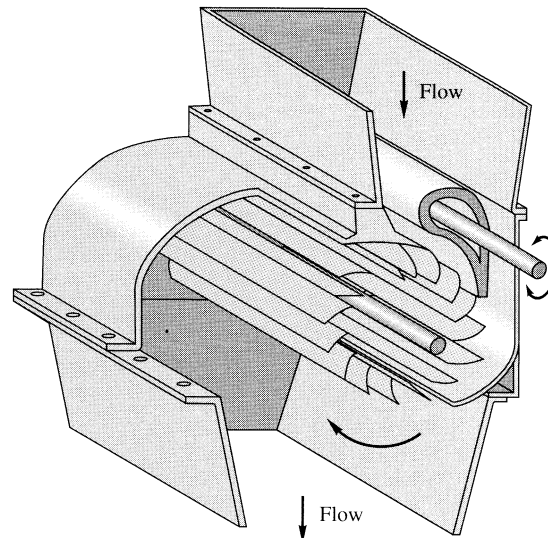

Fig. P11.93
**11.93** Figure P11.93 shown on the following page, shows a *crossflow* or “Banki” turbine [Ref. 55], which resembles a squirrel cage with slotted curved blades. The flow enters at about 2 o’clock, passes through the center and then again through the blades, leaving at about 8 o’clock.
**11.94** A simple crossflow turbine, Fig. P11.93 above, was constructed and tested at the University of Rhode Island. The blades were made of PVC pipe cut lengthwise into three  $120^\circ$ -arc pieces. When tested in water at a heads of 5.3 ft and a flow rate of 630 gal/min, the measured power output was 0.6 hp. Estimate (a) the efficiency; and (b) the power specific speed if  $n \approx 200$  rpm.